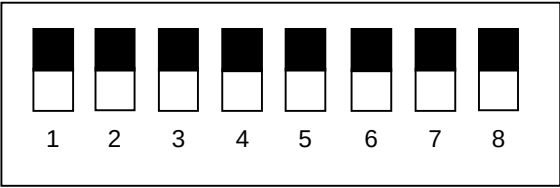

Figure 6.12.2 DIP switches (Being set for Standard setting)
- (2) Perform as the procedure shown below.
(3) Set the DIP switch No.4 as shown in Figure 6.12.2.